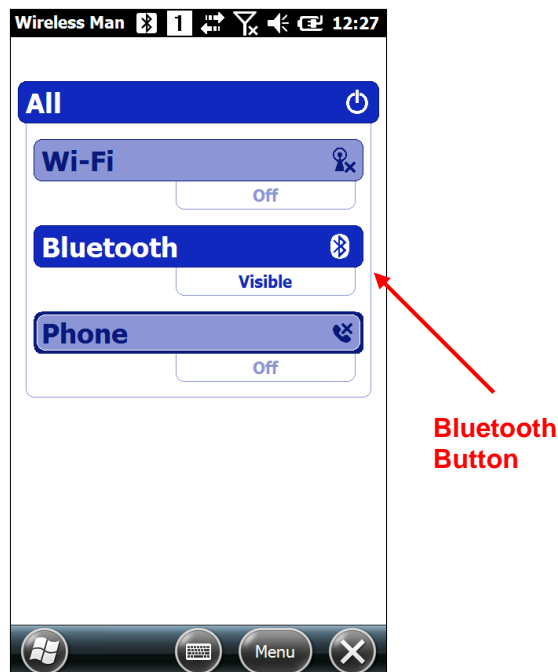

Figure 37 – Handheld Wireless Main Menu
- Make sure that the Bluetooth radio is turned on (Figure 37).